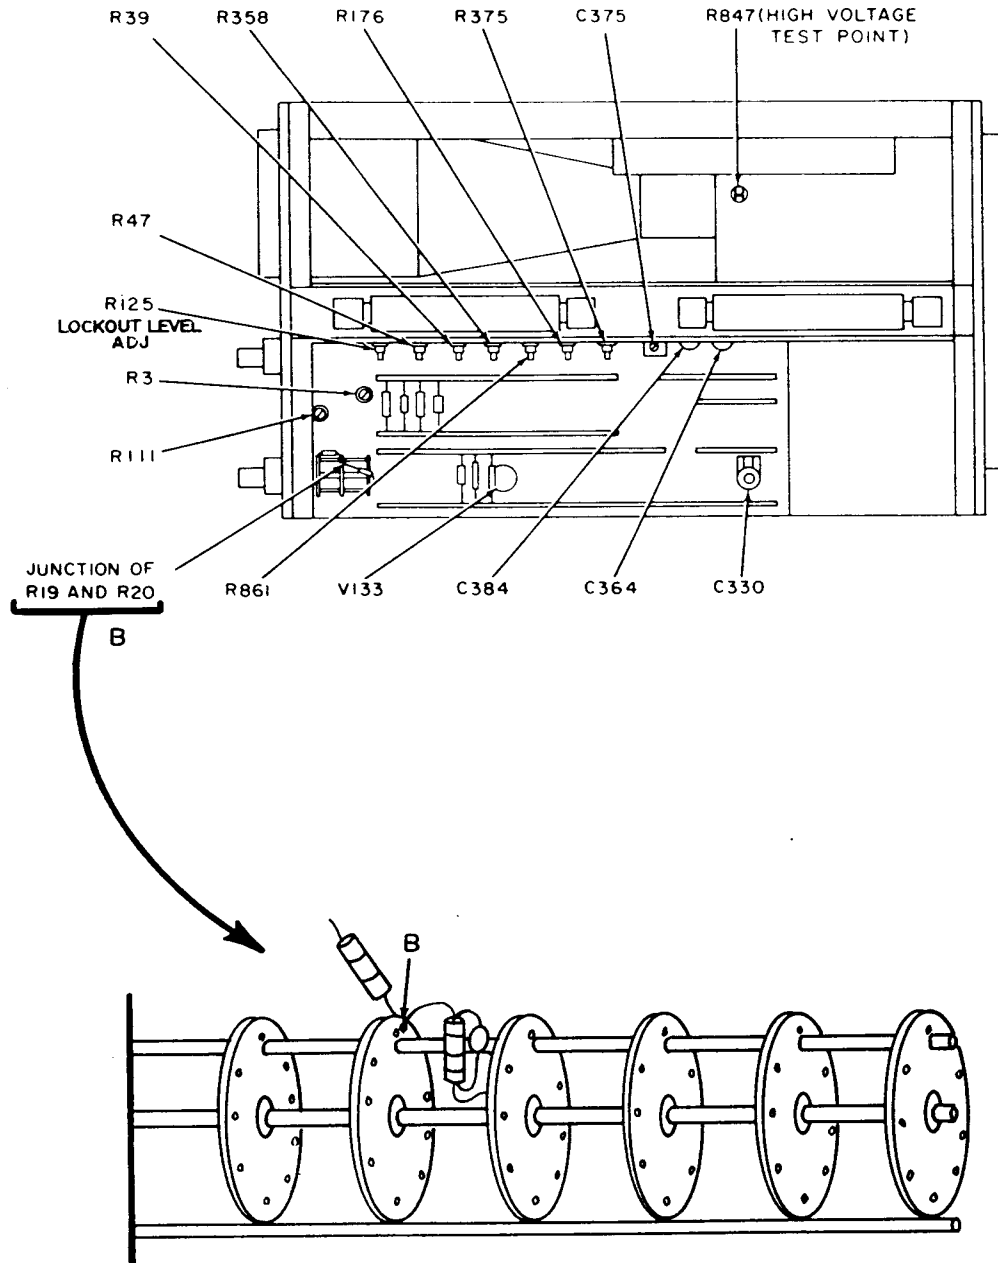

Figure 4. Oscilloscope - top view (545A) and right side RM45A.
(5) Adjust TI HORIZONTAL and VERTICAL POSITION controls to align display with vertical graticule lines and calibration adapter VARIABLE control until rising and falling portion of display are visible. If vertical lines are not straight, perform **b** below.
b. Adjustments. Adjust GEOMETRY R861 (fig. 4) for minimum curvature of vertical lines.
(4) Connect junction of R19 and R20 (fig. 4) to chassis ground, using lead and adapter (B7 and B1).
(6) Turn TI TRIG SENS R47 (fig. 4) control fully counterclockwise and TRIG LEVEL CENTERING R39 (fig. 4) control fully clockwise.
(7) Turn TI STABILITY control counterclockwise until waveform just disappears and then two or three degrees farther.
(8) Turn TI TRIG LEVEL CENTERING R39 counterclockwise until waveform reappears. If waveform does not reappear, turn TRIG SENS R47 clockwise a few degrees and readjust R39 until waveform appears.
(9) Turn TI TRIGGER SLOPE switch from +INT to -INT and back to +INT. Adjust TRIG LEVEL CENTERING R39 and TRIG SENS R47 to obtain a stable waveform in both positions.
(10) Turn TI TRIGGERING MODE switch to DC and calibration adapter VARIABLE control for 3 minor divisions of crt display.
(11) Turn TI TRIGGER SLOPE switch from +INT to -INT and back to +INT. If waveform does not invert and remain stable in both positions adjust INT TRIG DC LEVEL R3 (fig. 4) until stable waveform is obtained.
(12) Remove lead and adapter grounding the junction of R19 and R21
(13) Turn TI TRIGGERING LEVEL control until waveform is stable. If white dot on TRIGGERING LEVEL control does not point to zero (0), loosen setscrew on TRIGGERING LEVEL control and turn knob until white dot is aligned.
(14) Tighten setscrew and remove connection to calibration adapter INPUT.
(15) Position TI controls as listed in **(a)** through **(c)** below:
(16) Connect ac/dc voltmeter (A1) between TI PRESET ADJUST wiper arm R111 (fig. 4) and chassis ground, using leads supplied with (A1) or two adapters and two leads (B1 and B7).
(17) Turn TI PRESET ADJUST fully counterclockwise and then slowly clockwise until trace just appears. Record ac/dc voltmeter indication.
(18) Turn TI PRESET ADJUST control clockwise a few degrees farther until trace brightens. Record ac/dc voltmeter indication.
(19) Turn TI PRESET ADJUST control to obtain an indication on ac/dc voltmeter midway between indications recorded in (17) and (18) above.
(18) Turn TI PRESET ADJUST control fully counterclockwise (trace will disappear) and then clockwise until trace just appears on crt. Record ac/dc voltmeter indication.
(19) Turn PRESET ADJUST control clockwise until trace brightens. Record ac/dc voltmeter indication.
(20) Turn TI PRESET ADJUST wiper arm R111 (fig. 4) to obtain an indication on ac/dc voltmeter midway between indications recorded in (18) and (19) above.
(1) Adjust MAG GAIN R375 (fig. 4) for one marker per major vertical graticule division on crt (R).
(2) Adjust NORM MAG REGIS R358 (fig. 4) to align first time marker directly behind center graticule line (R).